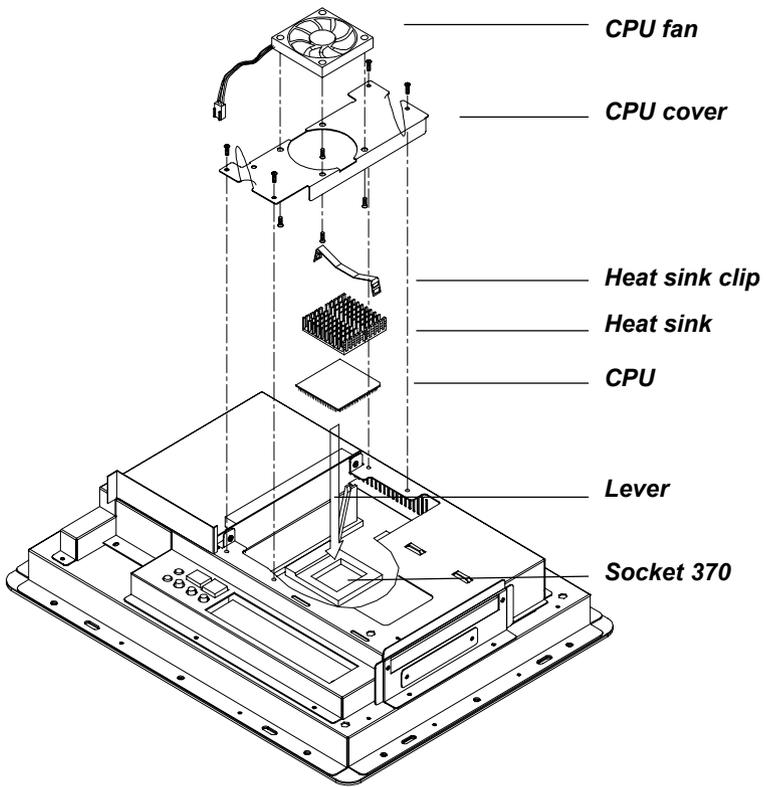

Figure 4-3: Installing the CPU
arrowhead printed on the motherboard points to the end of the lever. (See Fig. 4-3 overleaf.)
9. Place the heat sink on top of the CPU and fasten it with the heat sink clip (shown in Fig. 4-3).